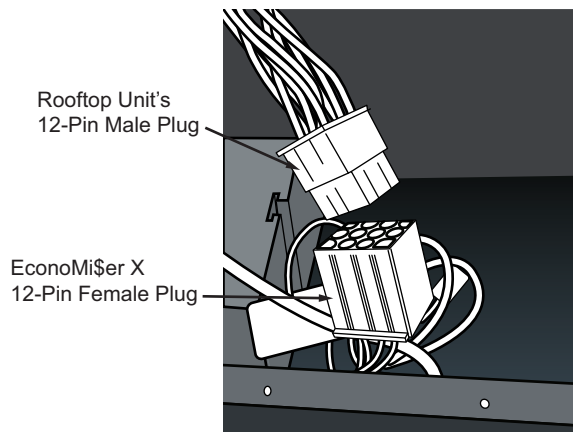

Fig. 5 — Connect EconoMiSer X Harness to Unit PL6 Economizer Harness
8. Remove and save the 12-pin jumper plug from the unit economizer harness located in the upper left corner of the unit. Insert the EconoMi\$er X plug into the unit wiring harness. (See Fig. 5.)